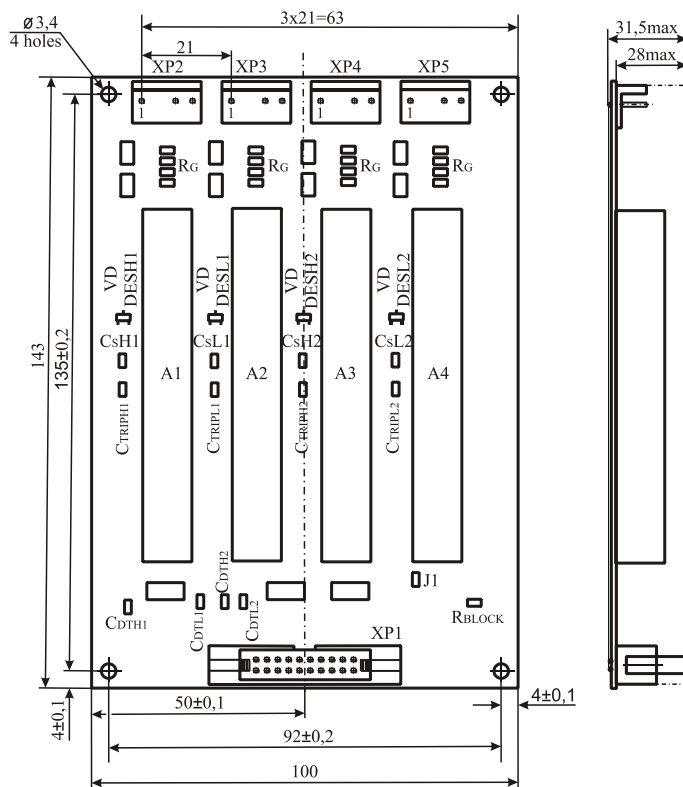
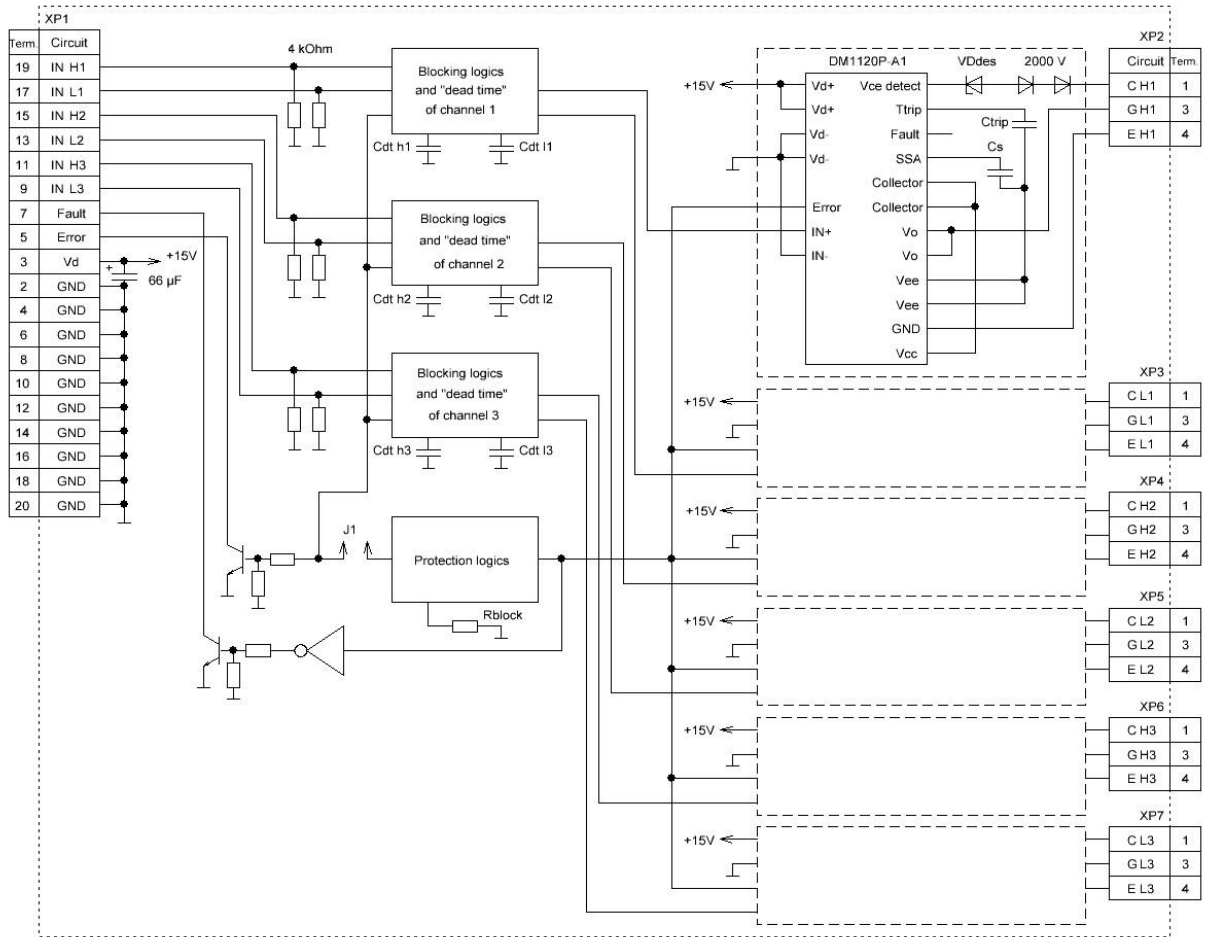
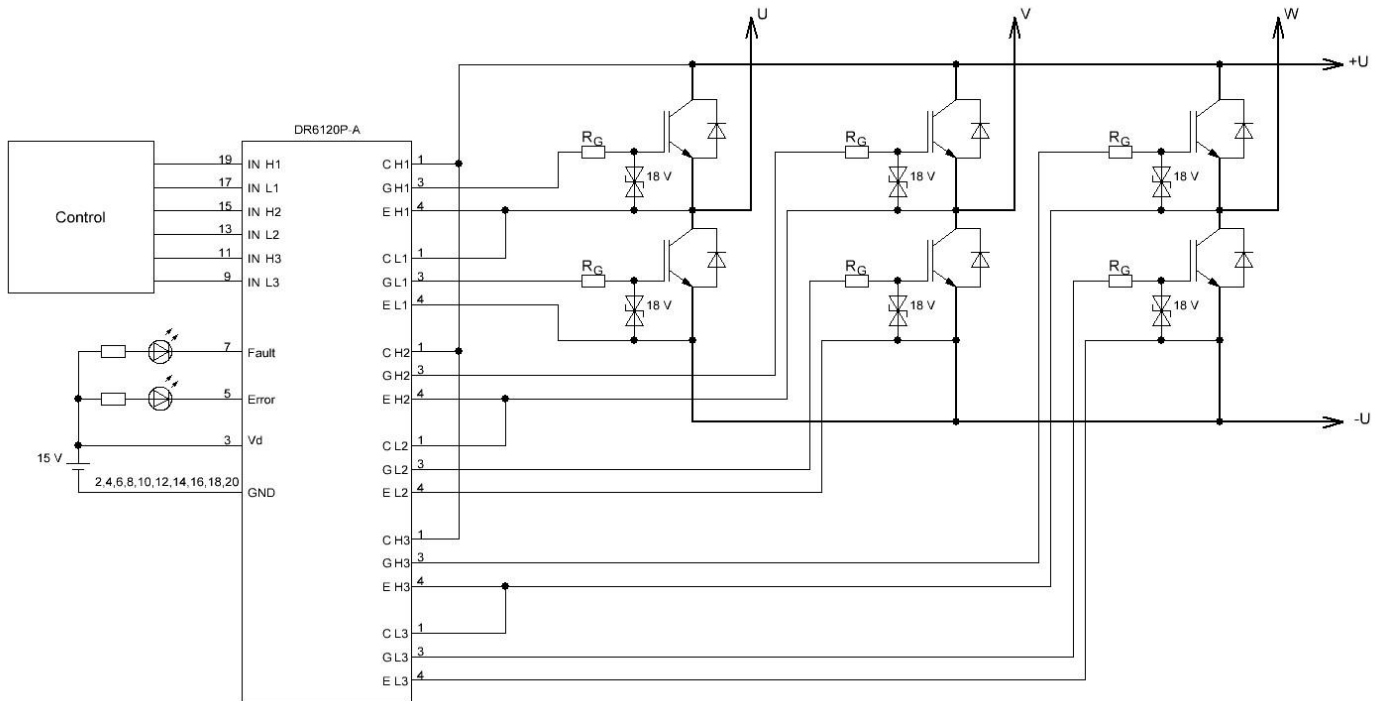

Figure 1 – Driver dimensional drawing
Figure 2 – Driver functional diagram
Figure 3 – Driver connection circuit
3.1 Dimensional drawing is shown on Figure 1, functional diagram is shown on Figure 2, connection circuit is shown on Figure 3.